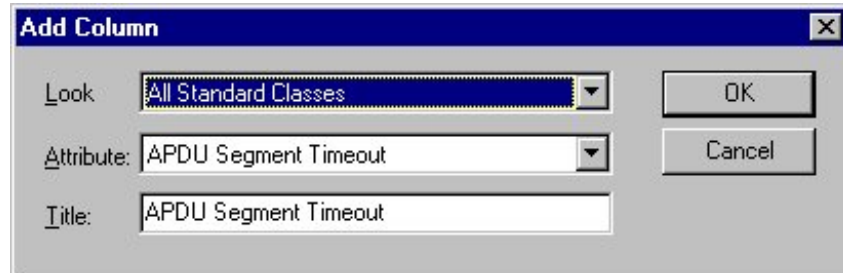

Figure 10-3: Add Column Dialog Box
3. Select Add Columns on the Format menu. The Add Column dialog box appears (Figure 10-3).